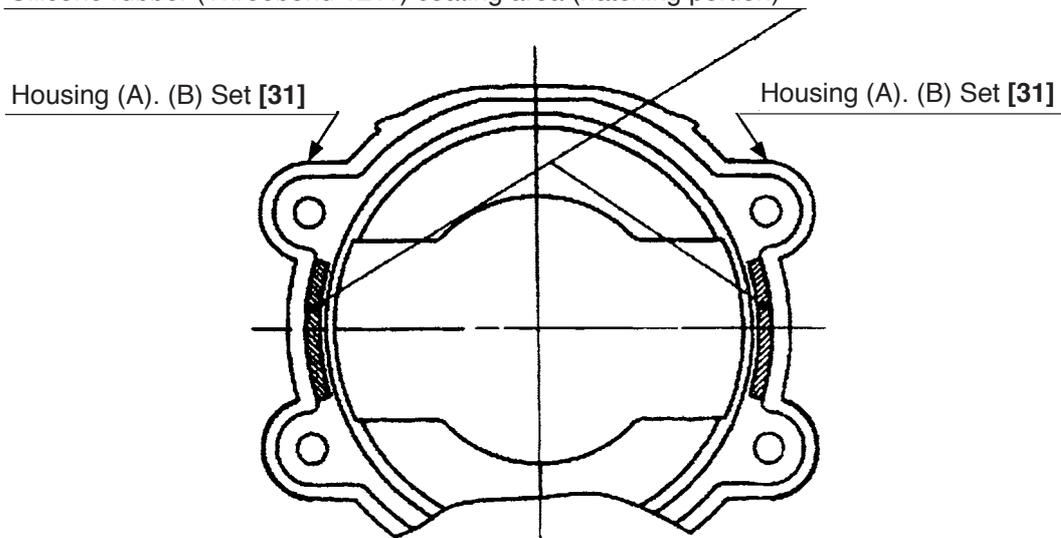

Fig. 11
(4) Mounting Gear Box (B) Ass'y [1] to the housing
Coat Housing (A).(B) Set [31] with Silicone Rubber (THREEBOND 1211) as shown in Fig. 11. Mount Gear Box (B) Ass'y [1] so that the pinion press-fitted in the Motor [26] properly meshes with the Idle Gear Set [18]. Check that Anvil (B) [9] turns smoothly. If not, the gear meshes improperly. Check the meshing condition. Tighten the four Tapping Screws (W/Sp. Washer) D4 x 40 [6]. Wipe the silicon rubber protruded from the housing with a cloth.